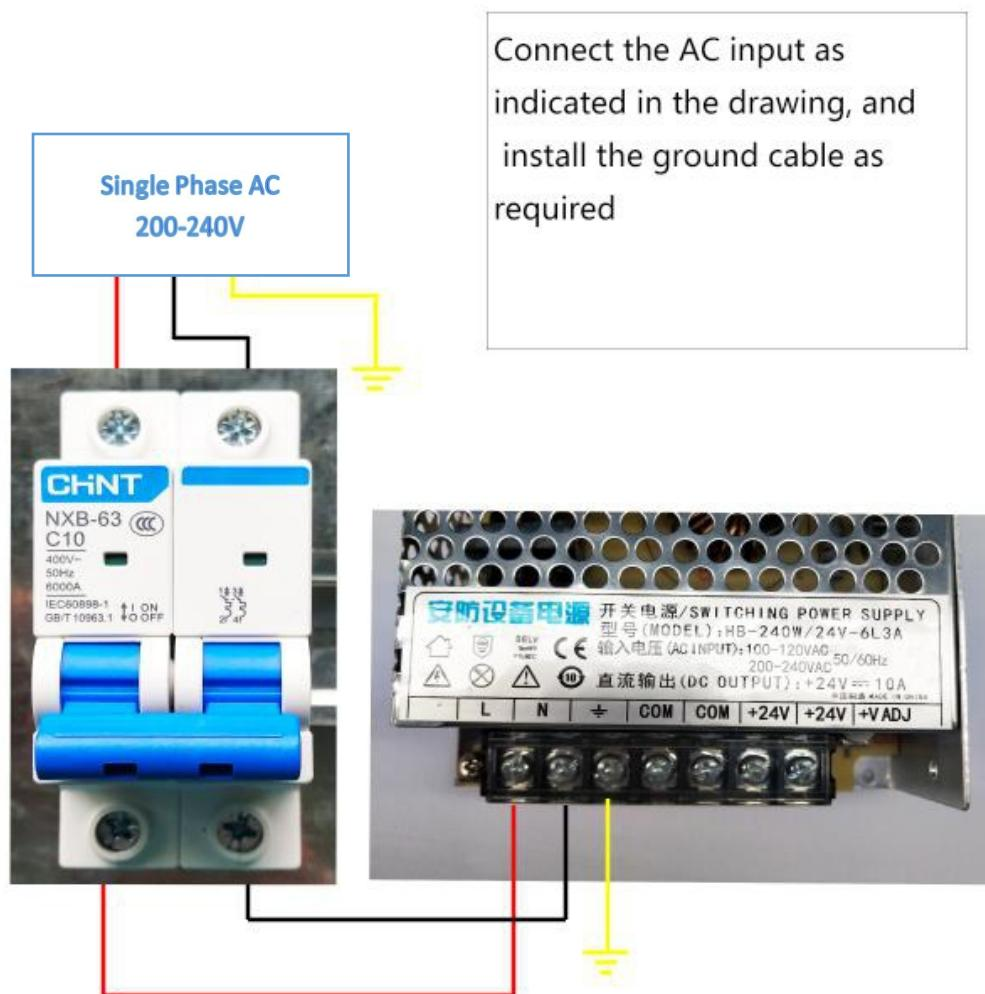

Figure 6.2.1
6.2.1, air switch and power supply connection (Figure 6.2.1)